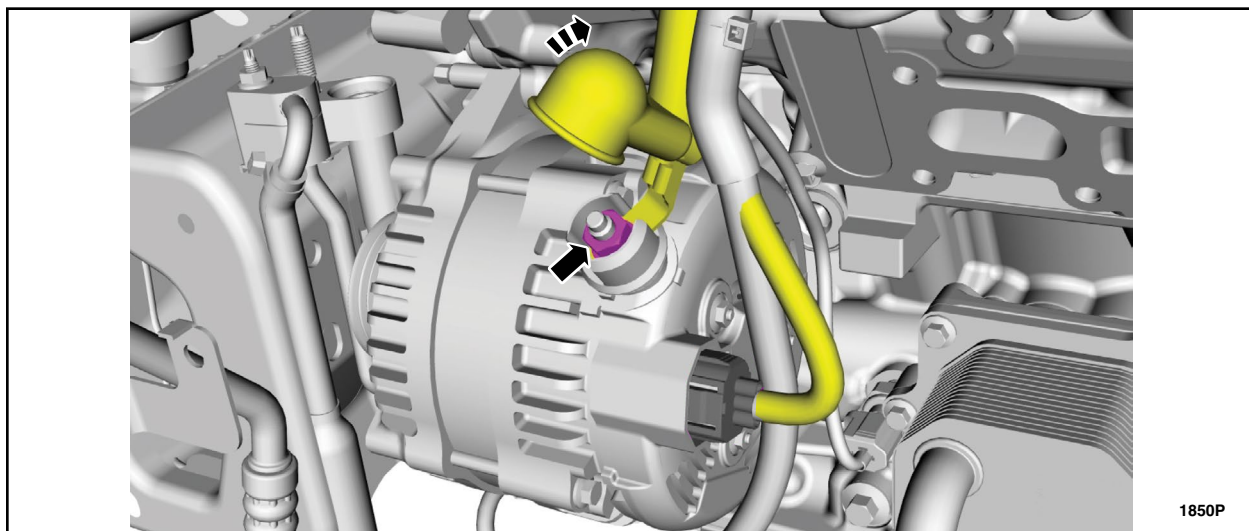

FIGURE 19
3. Inspect the generator battery positive cable nut and stud for cross threading and torque the nut. See Figure 19.